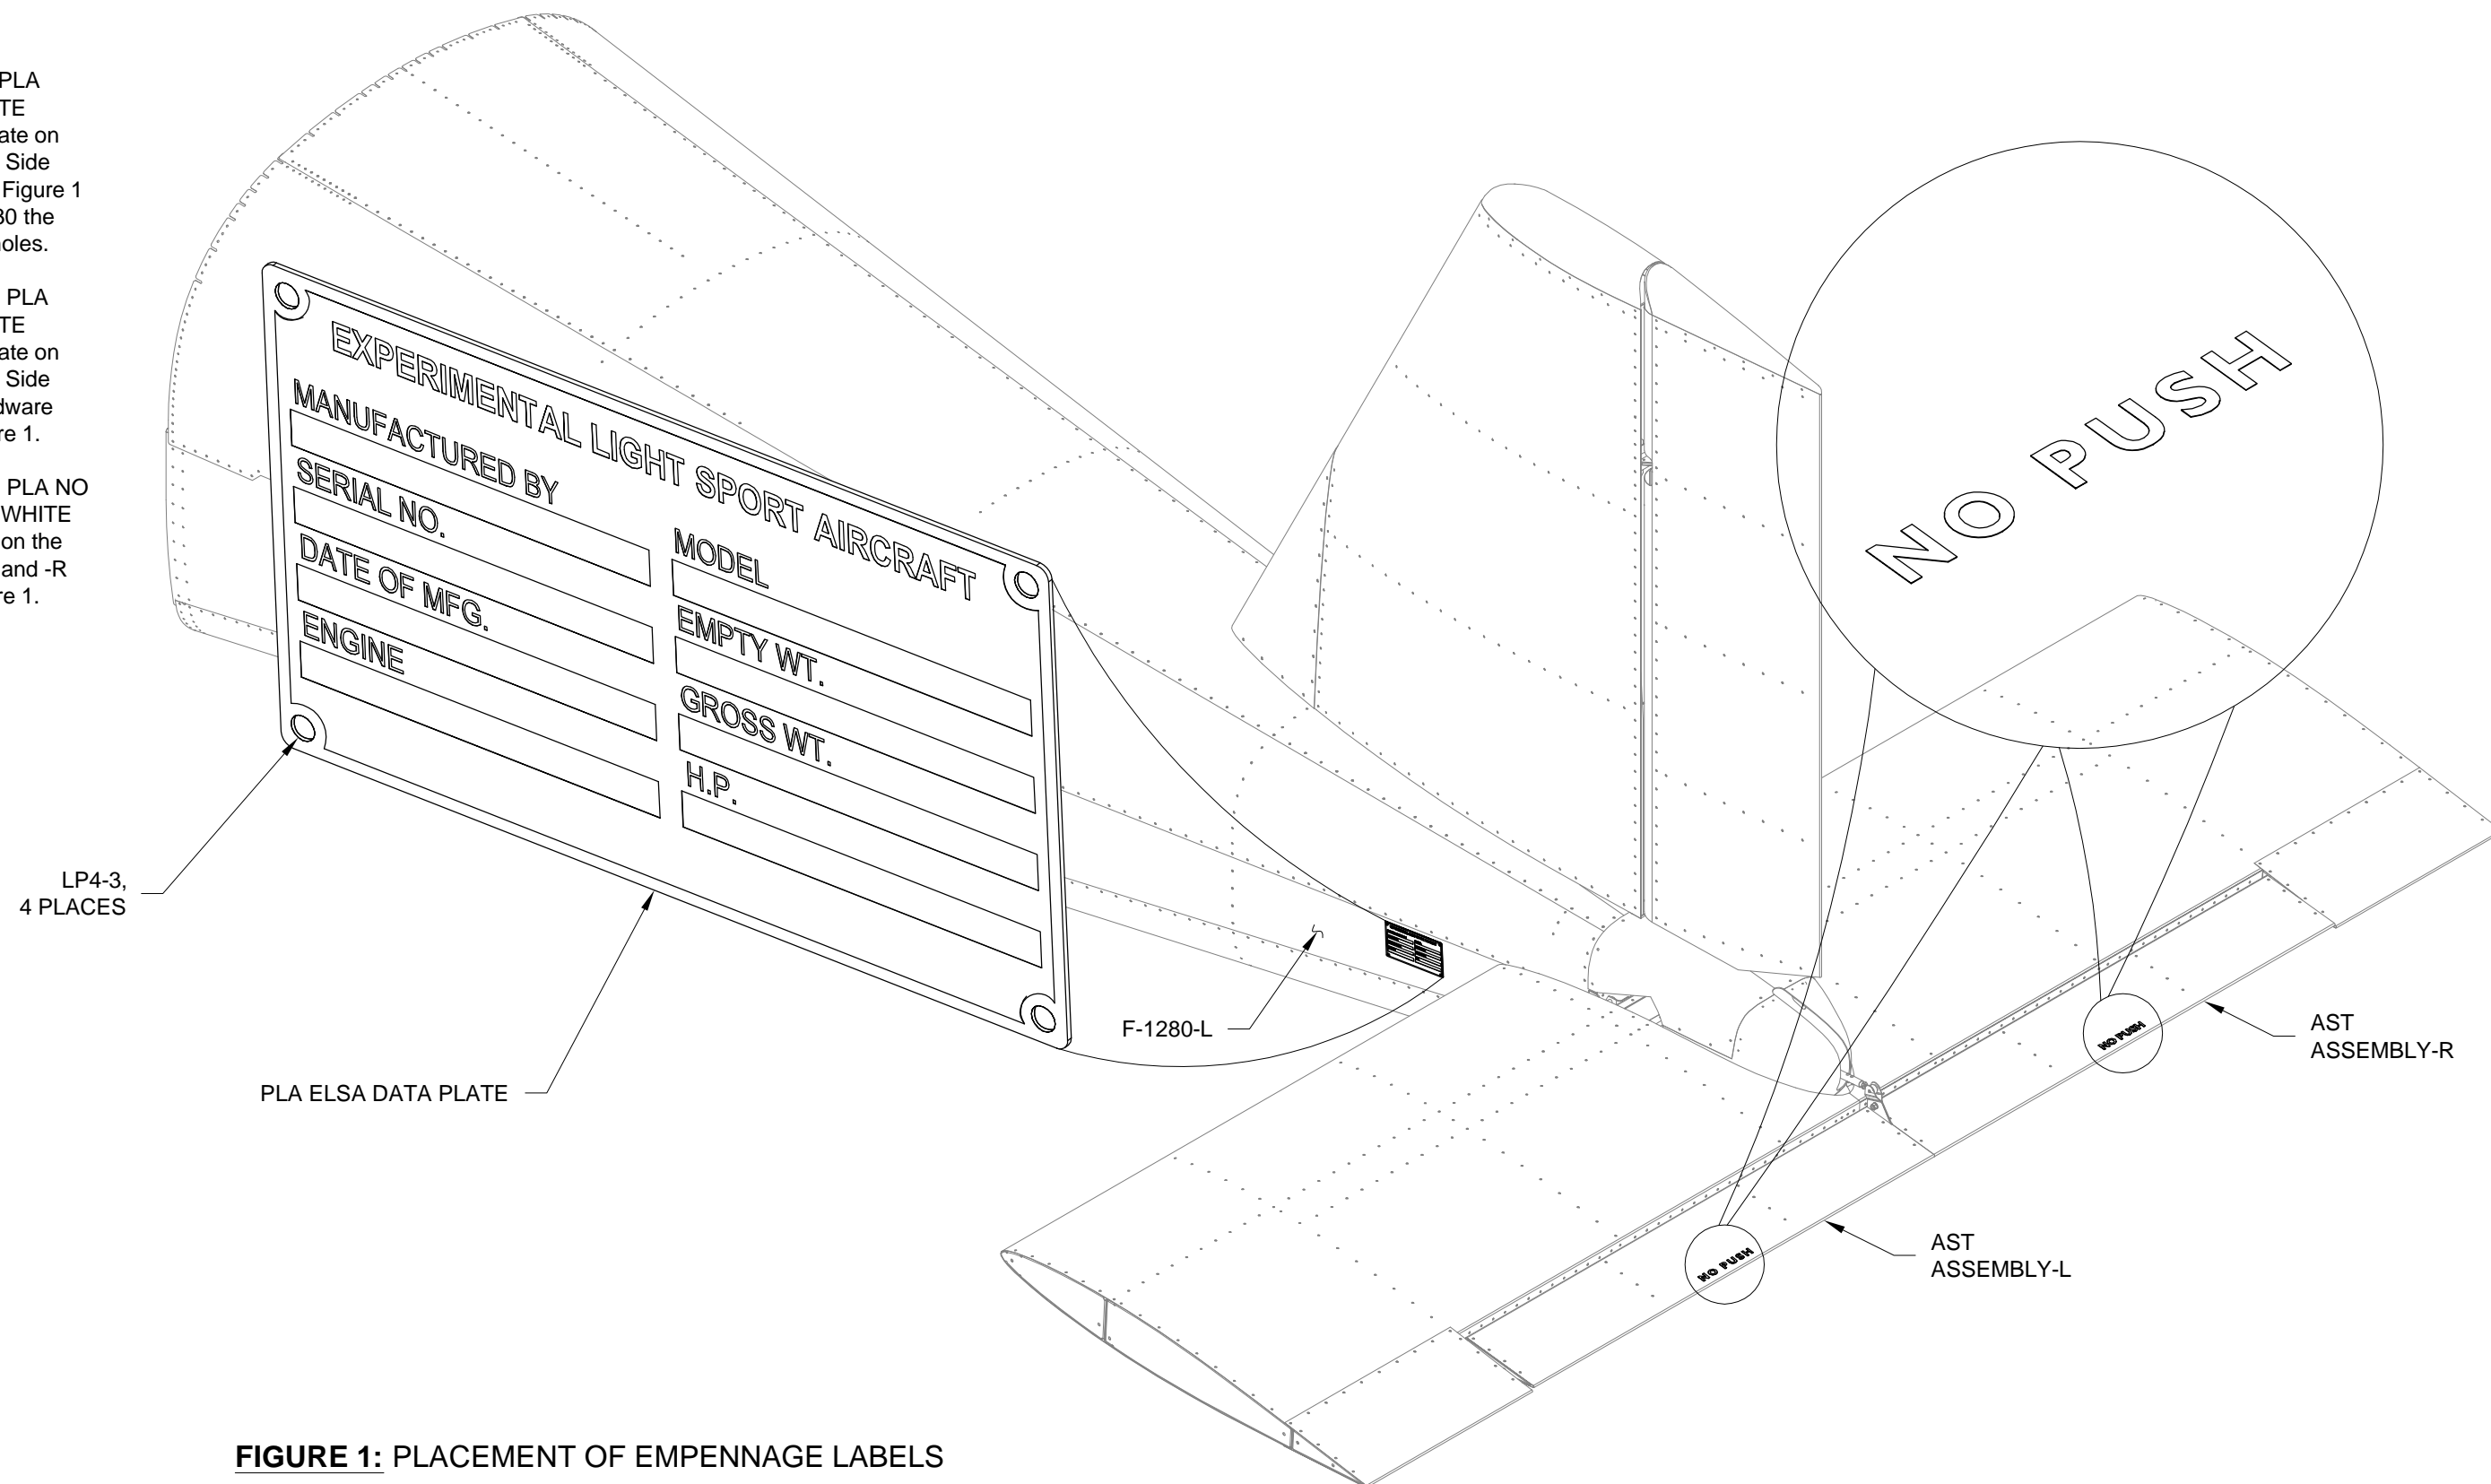

FIGURE 1: PLACEMENT OF EMPENNAGE LABELS
Step 1: Install F-1200B BLACK or WHITE Fuel Placard on the F-1277-R FWD Turtle Deck Skin. See Figure 1.